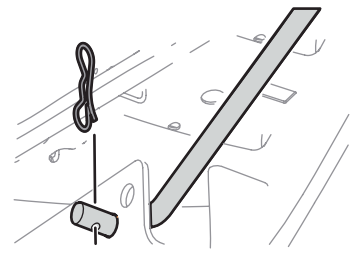

Figure 23
- Pull the bow-tie pin out of the front deck lift rod securing it to the deck. See Figure 23. Slide the deck lift rod out of the front hanger bracket.